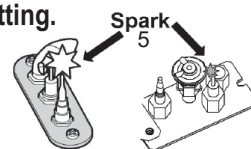

Fig 3
2. **SET ON/OFF SWITCH (1) TO "OFF" POSITION.**
- Wait five (5) minutes to clear out any gas, then smell for gas, including near the floor. If you smell gas, **STOP!** Follow "B" in the safety information above on this label. If you don't smell gas, go to the next step.
3. **AUTOMATIC IGNITION (fig. 1):** Locate the pilot (fig 3.) inside of firebox.
- ON/OFF switch (1) in ON position, MAN-knob (2) in ON position; set Flame Adjustment knob (3) to lowest setting (∩)
- When the pilot is lit, the Flame Adjustment knob (3) will automatically rotate to the highest setting.
4. **MANUAL IGNITION (fig. 2):** With the window off, locate pilot (fig. 3) inside firebox;
- ON/OFF switch (1) in ON position, MAN-knob (2) in MAN position;
- Set Flame Adjustment knob (3) to the lowest setting (∩);
- Push down the metallic core (4) with a pen or similar instrument; this will establish the pilot gas flow; Light gas at the pilot (5) with a match;
- Continue holding down metal core (4) for about 10 seconds; after release, pilot should remain lit;
- If the pilot will not stay lit after several tries, turn the gas control knob (3) to "OFF" (∩) and call your local service technician or gas supplier.